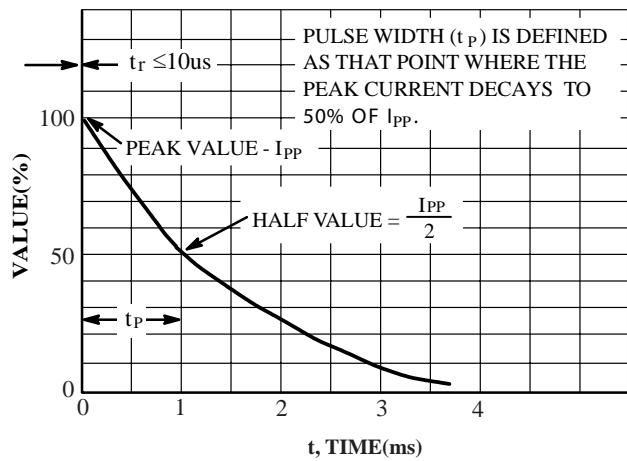

FIG.5 Pulse Waveform
NOTE: 1. Non-Repetitive Current Pulse, per FIG 5 and Derated above  $T_A=25^\circ\text{C}$  per FIG 6.
6. Surge current waveform per Fig 5 and derate per Fig 6